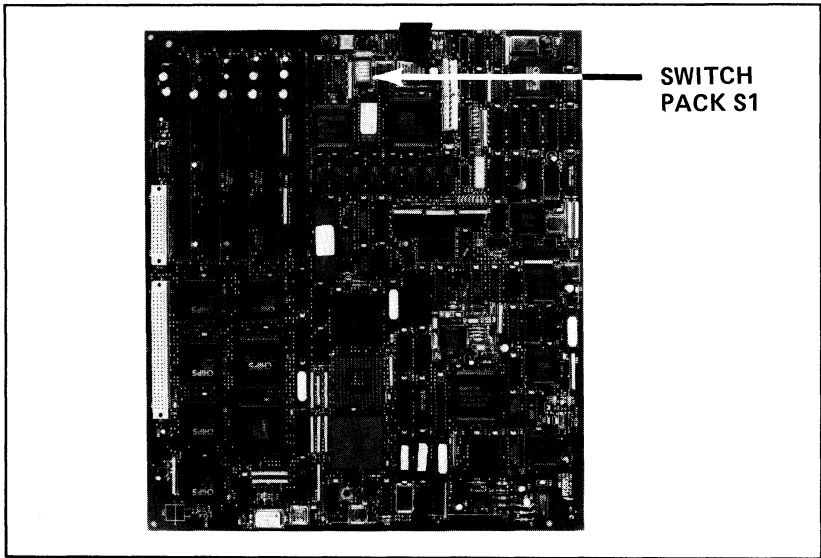

Figure 3-2. Location of Switch Pack S1 on the Motherboard
3. Locate switch pack S1 on the motherboard as shown in Figure 3-2. Set switches according to the type of monitor to be used, referencing Table 3-1. The position labeled OPEN on the switch equals OFF, and the opposite, unmarked position on the switch equals CLOSED or ON. The factory setting is monochrome, with automatic switching OPEN.